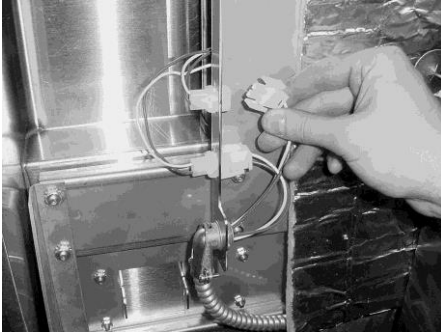

Figure 2-80
5. Disconnect actuator connector. Figure 2-80.